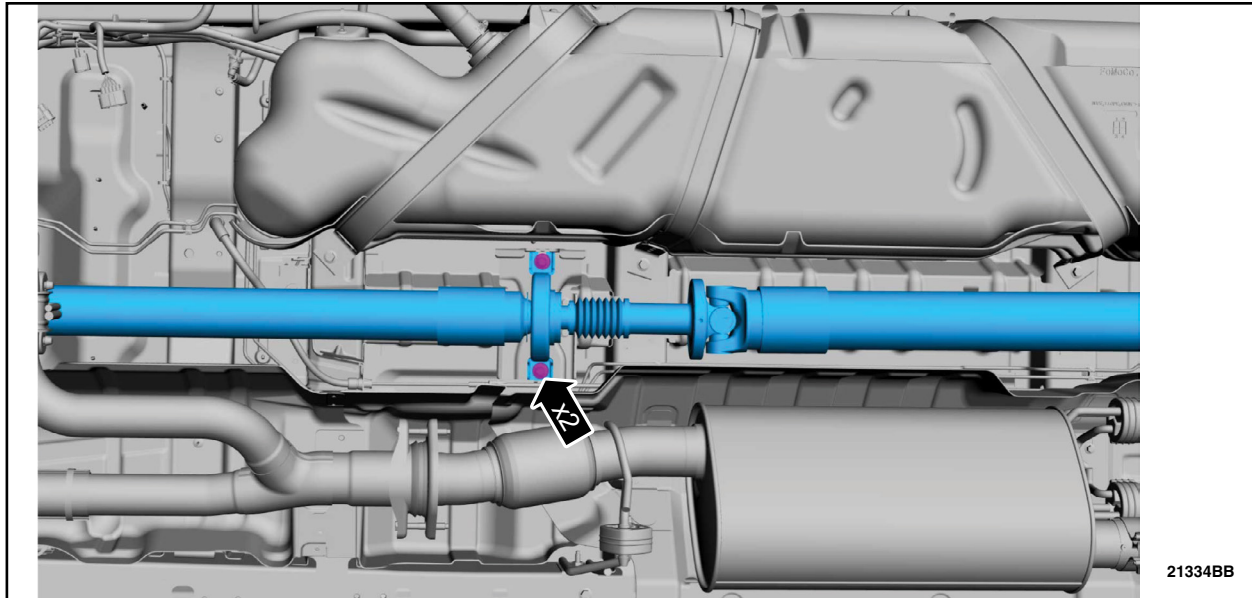
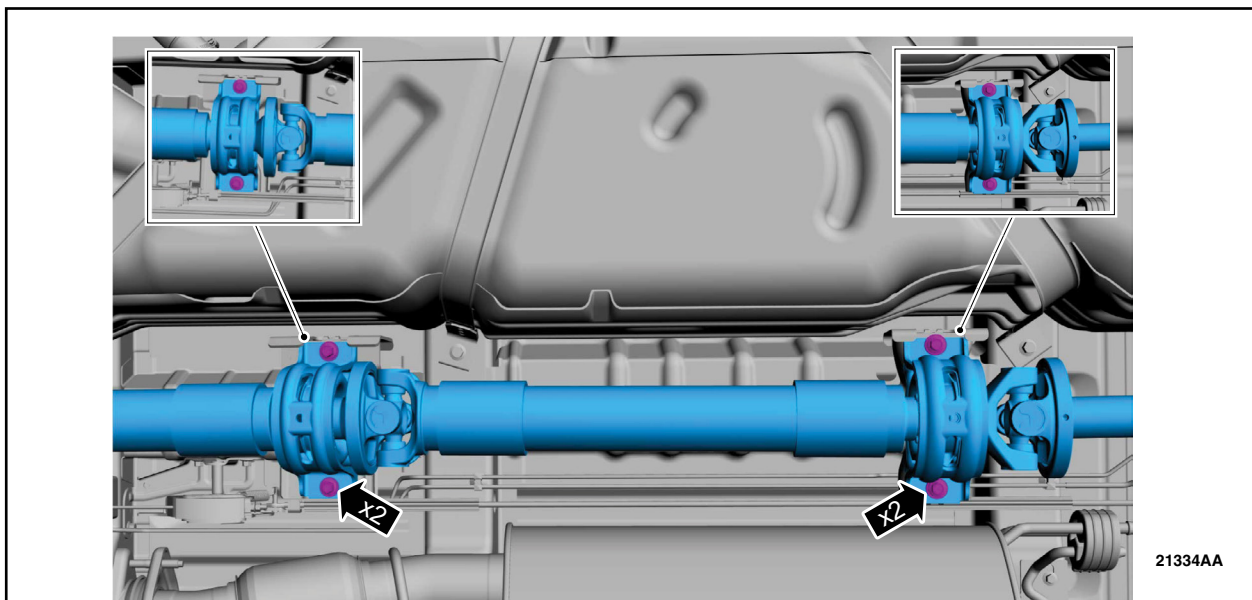

FIGURE 26
FIGURE 27
36. Tighten the new driveshaft center bearing bolts. 2 on Medium wheel base, 4 on Long wheel base, and 6 on Extra-Long Wheelbase. See Figure 26 for Medium Wheelbase. See Figure 27 for Long Wheelbase.